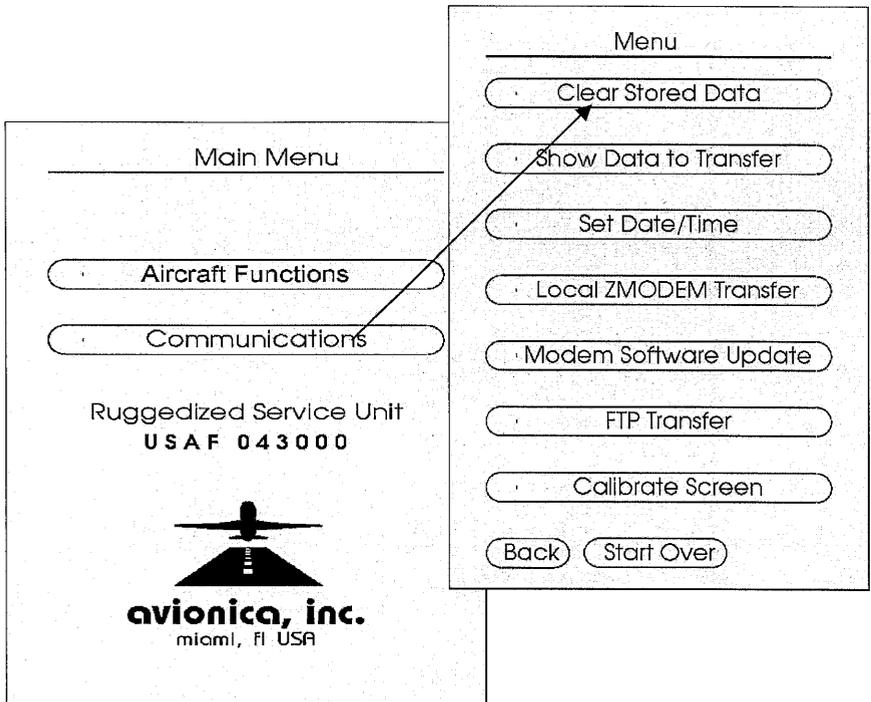

Figure 21
4. See figure 21. Choose the “Modem Software Update” option. The RSU will automatically dial out and retrieve the latest software image. If update does not perform properly refer to section 9.0 for a discussion of RSU configuration parameters.
The modem is to be attached to the docking station’s 25-pin connector. When the RSU is placed in the stand for charging, select the “Communications” option from the main menu (see left screen capture of figure 21 above). Select the “FTP Transfer” option. The modem will automatically dial, log into, and deposit all stored data files in the pre-programmed server. If the “modem transfer function” is not selected the RSU will automatically dial after it has been in the docking station for 15 minutes. If a connection cannot be established the modem will retry every 15 minutes until it makes connection. If the transfer is interrupted it will resume where it left off once connection has been reestablished. It will not